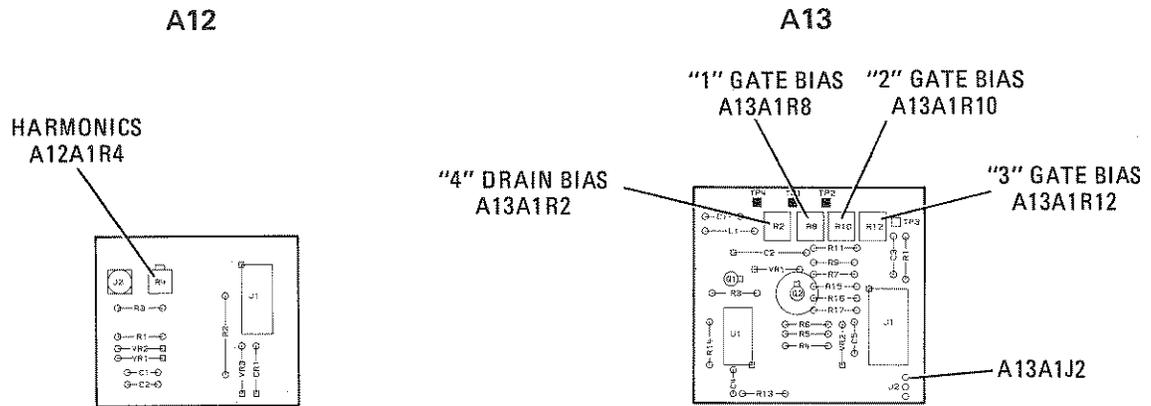

Figure 5-22. Band 1 Harmonics Adjustments Locations
2. Check the band-reject region of the trace. Signals observed above the noise floor of the detector represent the second harmonics of the 2 to 4 GHz swept signal. Four adjustment pots on the A13A1 Modulator/Amplifier bias assembly and one on the A12A1 (Figure 5-22) are used to optimize harmonic levels in Band 1. Begin adjustments from left to right along the top of the A13A1 assembly with the drain bias pot, R2 ("4"), followed by three gate bias pots: R8 ("1"), R10 ("2"), and R12 ("3"). Then adjust A12A1R4. Adjust all five pots for optimum harmonic levels.